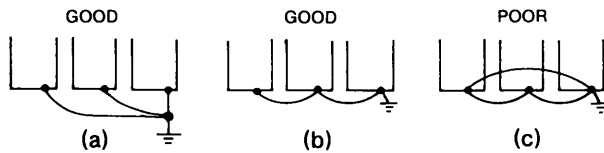

Fig 8 Grounding of Three VS-616HII Units
- (1) Ground resistance should be 100Ω or less.
- (2) Never ground VS-616HII in common with welding machines, motors, and other large-current electrical equipment, or ground pole. Run the ground lead in a separate conduit from leads for large-current electrical equipment.
- (3) Use ground lead listed in Table 4 and make the length as short as possible.
- (4) Even when VS-616HII is grounded through its mountings such as channel base or steel plate, be sure to ground VS-616HII using the ground terminal Ⓔ.
- (5) Where several VS-616HII units are used side by side, all the units should preferably be grounded directly to the ground poles. However, connecting all the ground terminals of VS-616HII in parallel, and ground only one of VS-616HII to the ground pole is also permissible (Fig. 8). However, do not form a loop with the ground leads.